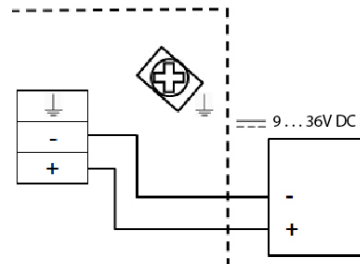

Figure 17: Power connections
3. Connect as shown in Figure 17.